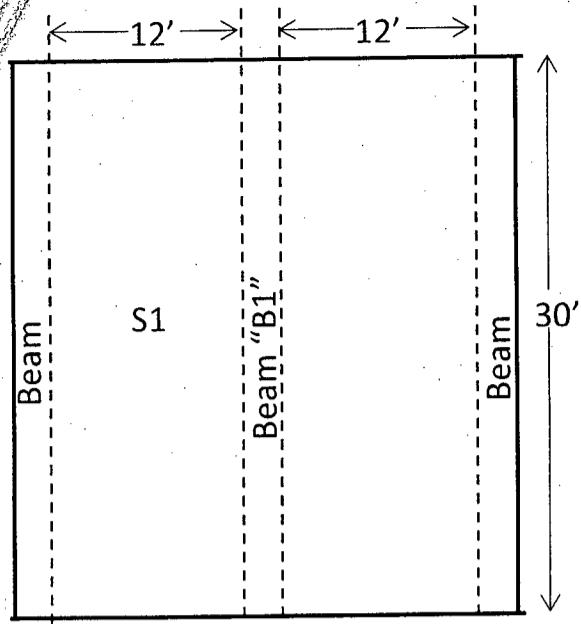

Fig. 1
1. (a) Why do we provide temperature and shrinkage reinforcement in slab? (5)
- (b) Design the one way slab panel "S1" as shown in Fig. 1. The slab carries a uniform live load of 40 psf and dead load of 35 psf in addition to its self-weight. Draw the reinforcement details also. Use Fig. 2 for calculation. (18)
- (c) Design the beam "B1" as shown in Fig. 1, supporting the slab system with loading as described in problem 1(b). (12)